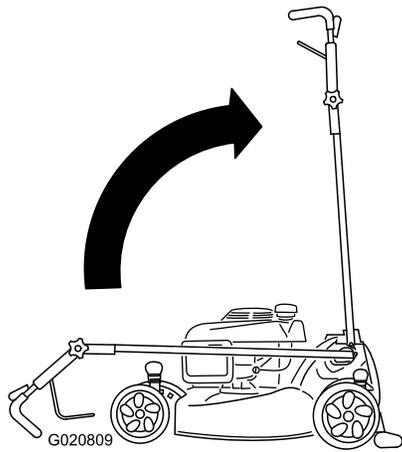

Figure 52
2. Move the handle to the upright position (Figure 52).